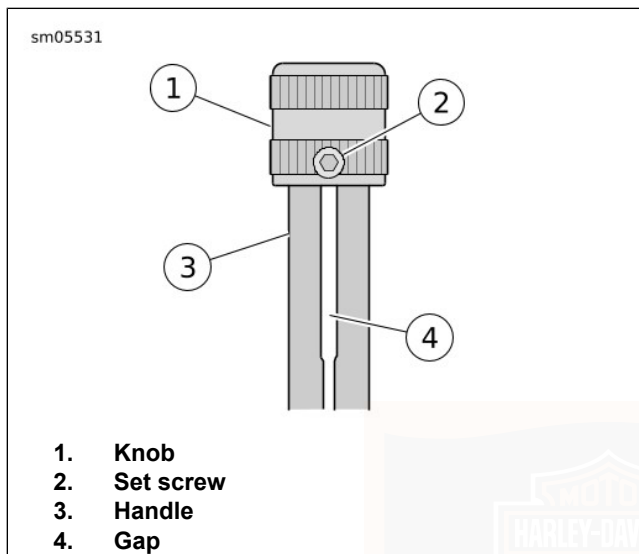

Figure 56. Park Brake
2. See Figure 56. Loosen set screw and turn knob several revolutions in the appropriate direction.